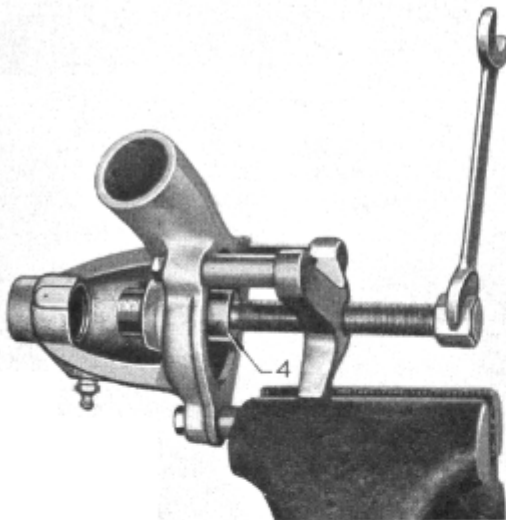

Figure 5
(6) Fig. 5—Assemble round pilot (4) to end of screw and push out rear bearing by tightening screw.